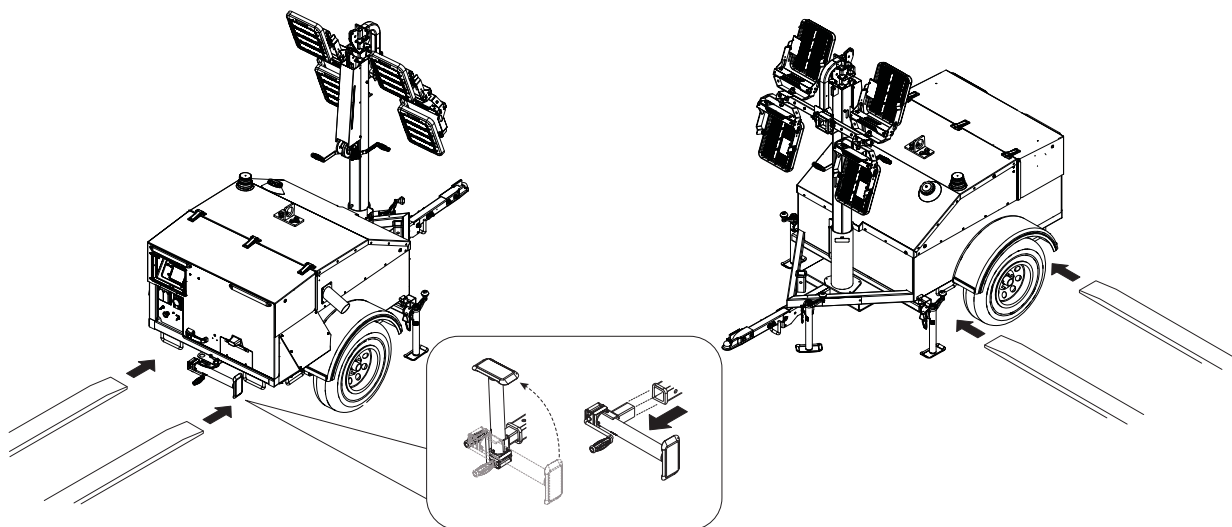

Figure 3-14. Lift Points
1. See Figure 3-14. Verify the equipment being used to lift the unit (A) is in good condition and has sufficient capacity. For approximate weights, refer to Specifications.
3. See Figure 3-14. Stow the mast and lights in the travel position as shown.
- When lifting the unit, attach any slings, chains or hooks directly to the central lift point (A).
- Use the forklift pockets (B) with care. Lift only from the side or the rear. Avoid approaching the unit at an angle, as this can permanently damage the forklift pockets, tires, or cabinet. Verify the forklift tines are clear of any obstructions before lifting.